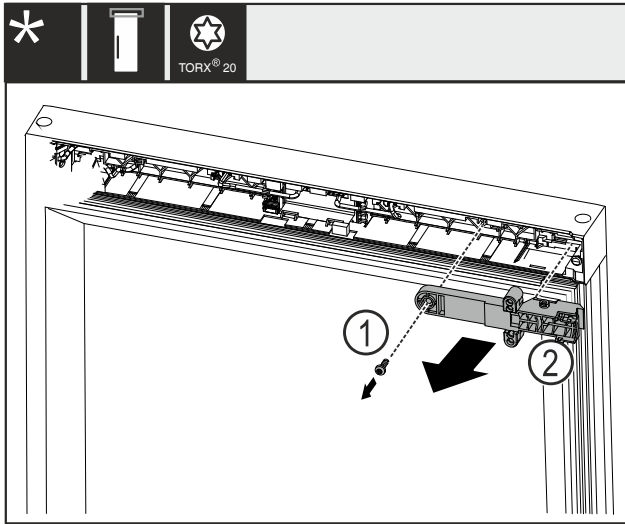

Fig. 21
- Remove the screw Fig. 21 (1).
- Remove the lock retainer Fig. 21 (2).